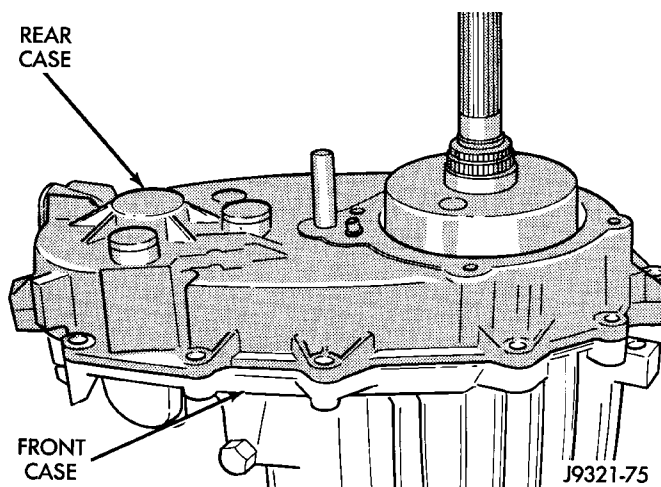

Fig. 69 Rear Case Installation
(10) Align and install rear case on front case (Fig. 69).